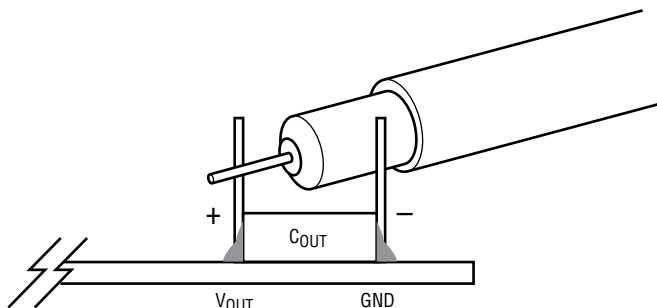

Figure 2. Measuring Input or Output Ripple Across Terminals or Directly Across Bulk Capacitor
**NOTE:** When measuring the input or output voltage ripple, care must be taken to avoid a long ground lead on the oscilloscope probe. Measure the input or output voltage ripple by touching the probe tip directly across the VHIGH or VLOW and GND terminals or directly across relevant capacitor. See Figure 2 for proper scope probe technique.